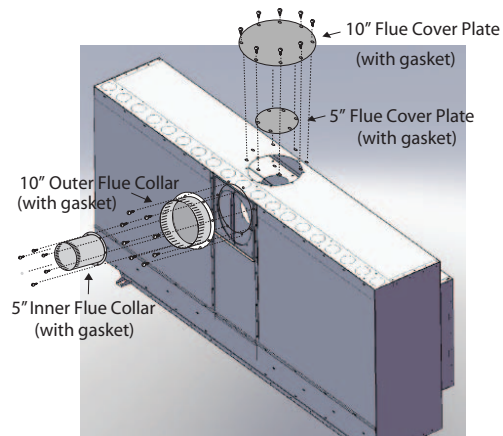

Figure 7a. Flue cover and collar installation, Rear Vented fireplace
3. Install the removed Rear flue cover (5" and 10") to the Top Vent outlet. Fasten the cover with included hardware, as shown in **Figure 7a**.
4. Install the collars (5" and 10") to the rear vent outlet using the included hardware, as shown in **Figure 7a**.